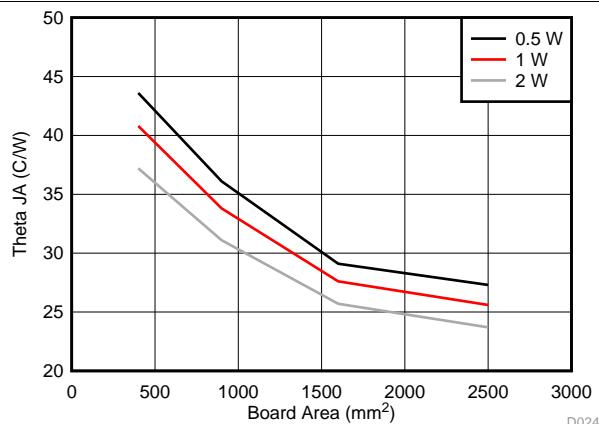

Figure 17. $R_{\theta\text{JA}}$ vs Copper Board Area
It is easy to see that larger ambient temperatures (T_A) and larger values of $R_{\theta JA}$ reduce the maximum available output current. As stated in Semiconductor and IC Package Thermal Metrics, the values given in the Thermal Information table are not valid for design purposes and must not be used to estimate the thermal performance of the application. The values reported in that table were measured under a specific set of conditions that are never obtained in an actual application. The effective $R_{\theta JA}$ is a critical parameter and depends on many factors such as power dissipation, air temperature, PCB area, copper heat sink area, number of thermal vias under the package, air flow, and adjacent component placement. The LM53603 uses an advanced package with a heat spreading pad (EP) on the bottom. This must be soldered directly to the PCB copper ground plane to provide an effective heat sink, as well as a proper electrical connection. The resources in Ground and Thermal Plane Considerations can be used as a guide to optimal thermal PCB design and estimating $R_{\theta JA}$ for a given application environment. A typical example of $R_{\theta JA}$ versus copper board area is shown in Figure 17. The copper area in this graph is that